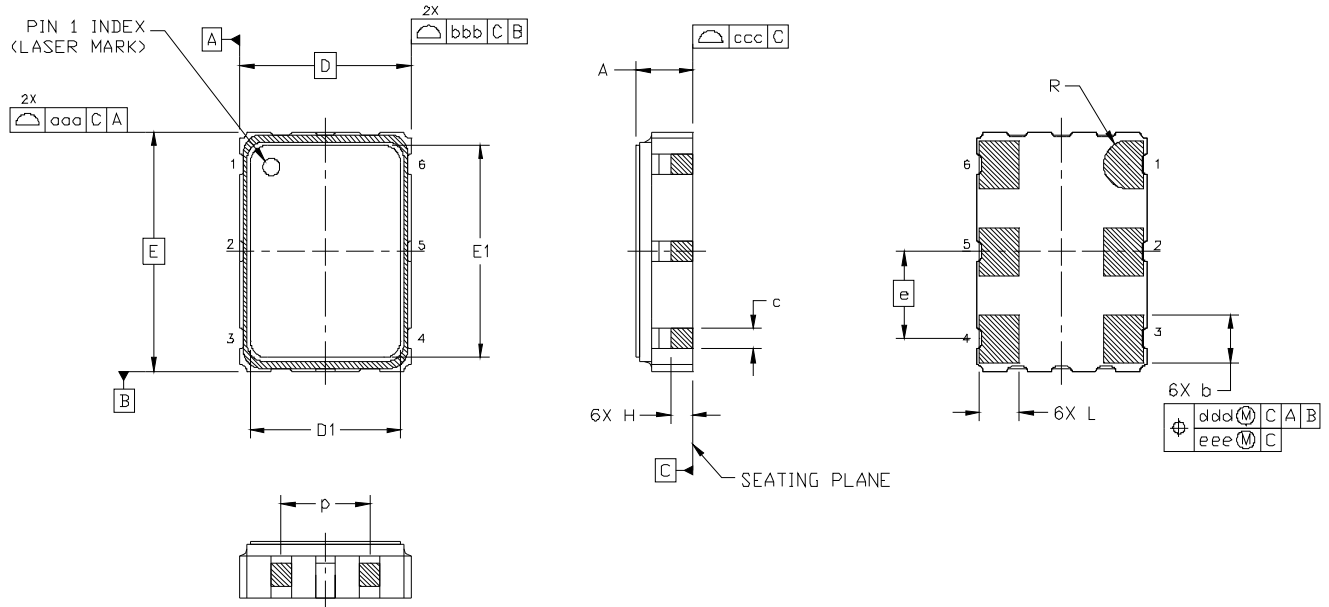

Figure 2. Si532 Outline Diagram
Figure 2 illustrates the package details for the Si532. Table 10 lists the values for the dimensions shown in the illustration.
- Revised Figure 2 on page 8 to reflect current package outline diagram.